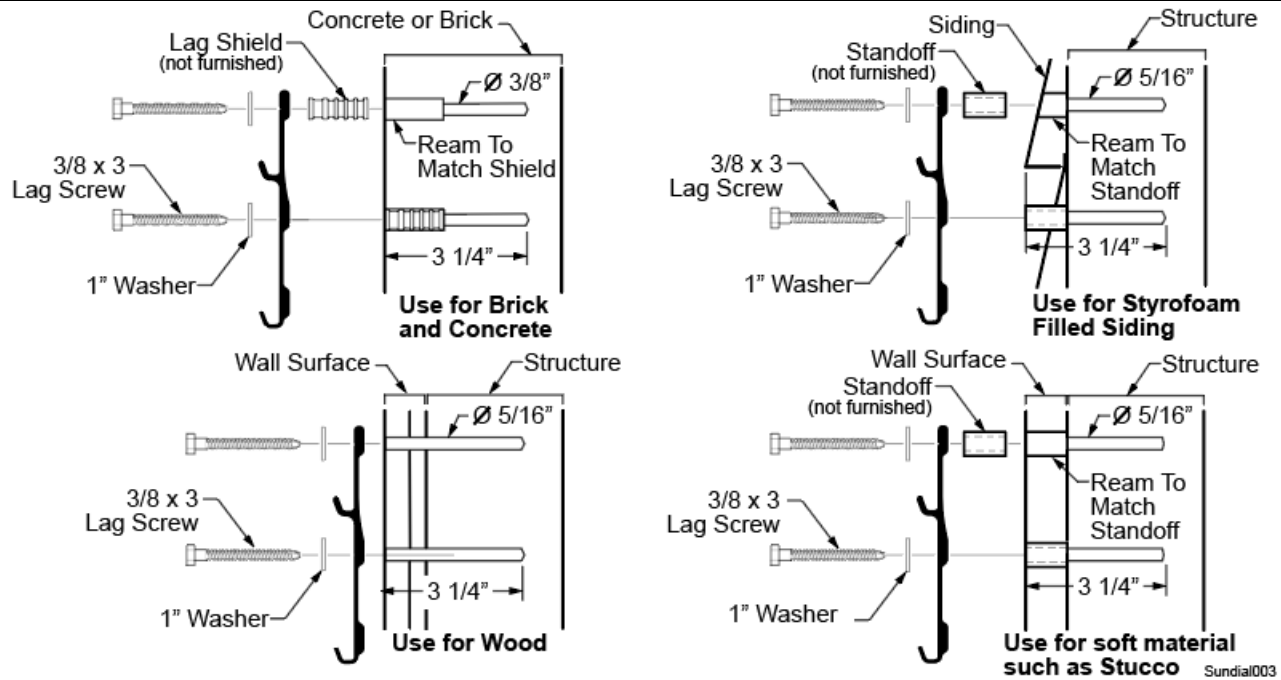

Figure 4
- 5.1. Using the plates as a template, drill $3/32$ " pilot holes for lag screws. You must drill the hole centered in the groove shown in Figure 4.